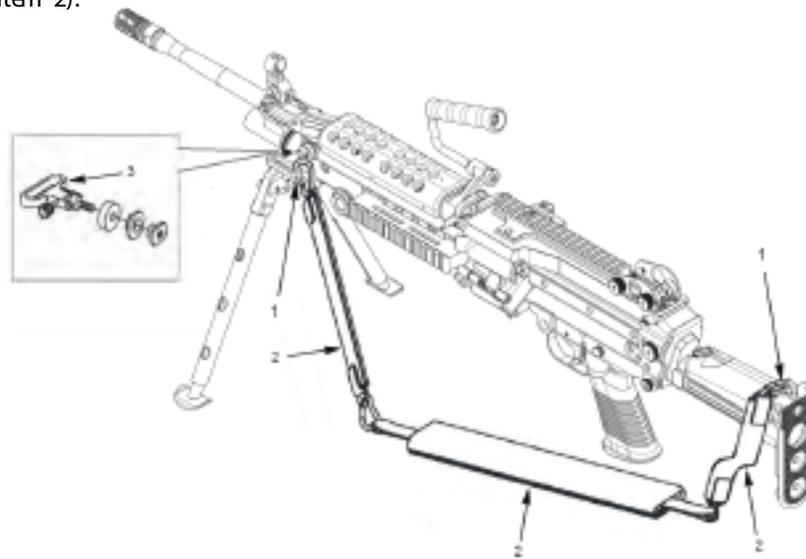

Figure 1. Sling attached to M249
1. Remove ends of sling small arms (Figure 1, Item 1) from front mount swivel and Light weight Collapsible Buttstock (Figure 1, Item 2).
1. Visually inspect sling small arms (Figure 1, Item 2) for torn webbing or stitches and three carabiners for bends or breaks. Replace sling, small arms (Figure 1, Item 2) if unserviceable.
2. Visually inspect swivel (Figure 1, Item 3) for bends or breaks and for proper securing. Replace swivel (Figure 1, Item 3) if unserviceable.